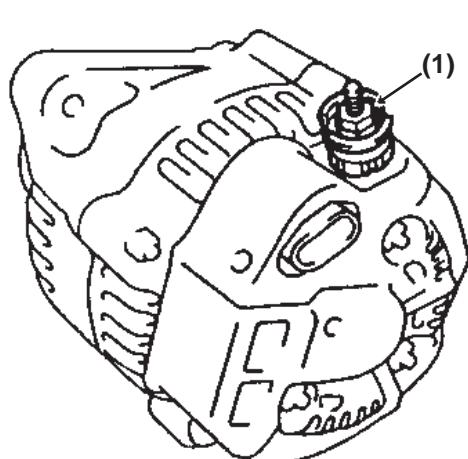

Figure 11-44
12. Install the terminal insulator and nut (**Figure 11-44, (1)**).